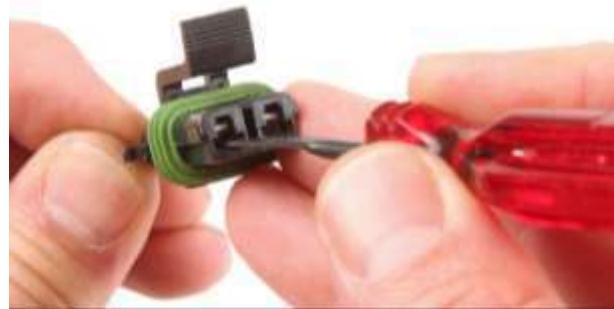

Figure 36
5. Remove contacts from connector body by inserting the tool (Figure 35) into the cavity of the connector, placing the tip of the tool between the locking tang of the terminal and the wall of the cavity as shown in Figure 36.
6. Press the tang of the terminal (Figure 36) to release it from the connector.